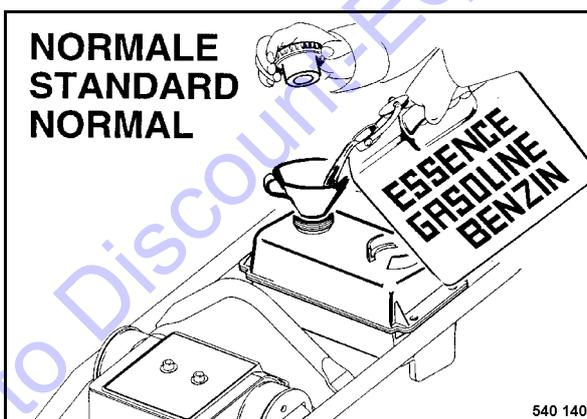

Fig. 37
- Close the filler cap again tightly after refuelling (Fig. 37).